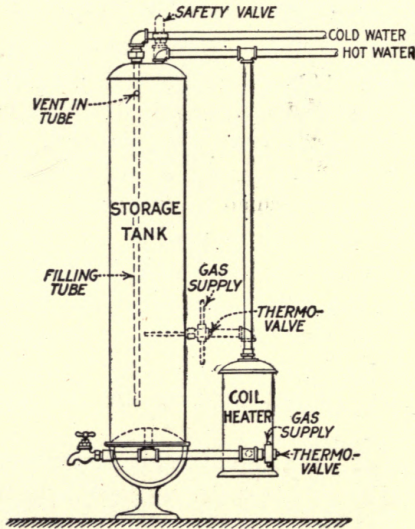

FIG. 71.—Storage tank, and coil heater with thermostatic control valve.
**Connections of Tank and Heating Apparatus.**—The ordinary house boiler or hot-water storage tank has four connections, two on top, one on the side, and one on the bottom. The top connections are used for the entrance of cold water into the tank and for the supply of hot water to the fixtures (see Fig. 71). The cold-water inlet has a tube extending into the tank below the side connection. This tube has a small hole filed in it about 6 inches from the top. This hole is to break any syphonic action that may occur at any time. The side connection is for the connection of the pipe coming from the top of the water back. The bottom opening in the tank is for the connection of the pipe coming from the lower water back connection, also for draining the